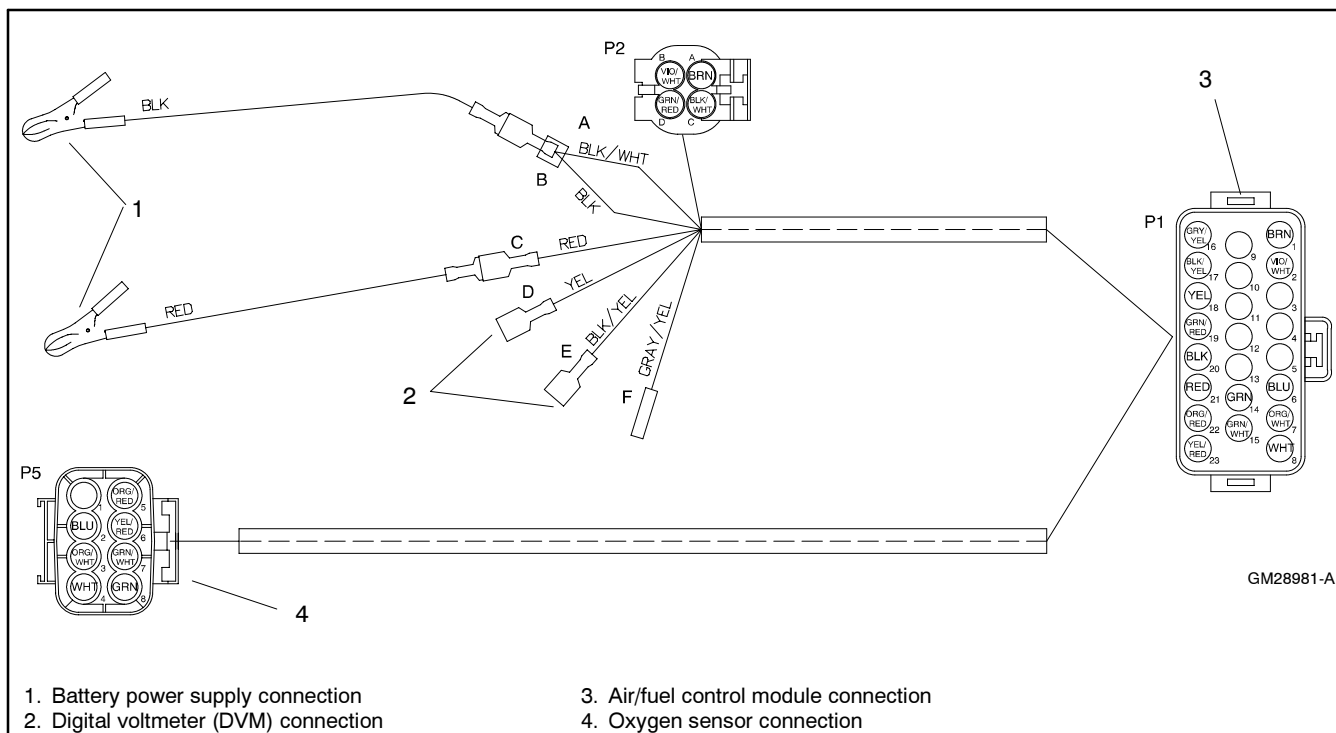

Figure 4 Sensor Interface Harness GM28981 Electrical Connections
- 2.3 Connect the oxygen sensor (GM28980) to the interface harness (GM28981). See Figure 4.